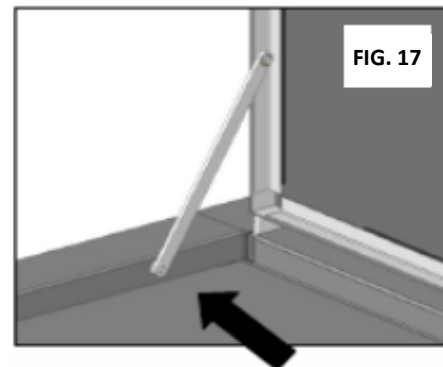

FIG. 17
- **Make sure that the retaining rod is properly fixed and there is no possibility that the vitroceramic glass worktop can come loose (Figure 17).**